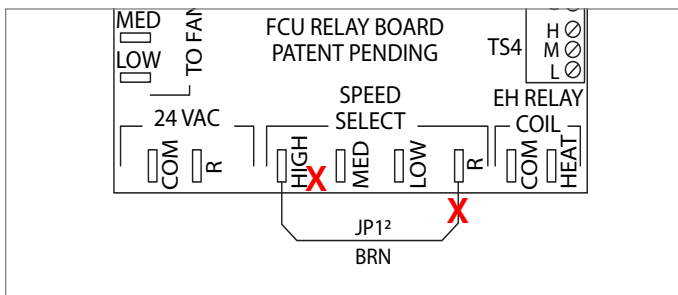

Figure 8 – Removing speed select jumper on unit WITH NO 3-speed switch
- a. If unit has no 3-speed switch. (See Figure 8.)